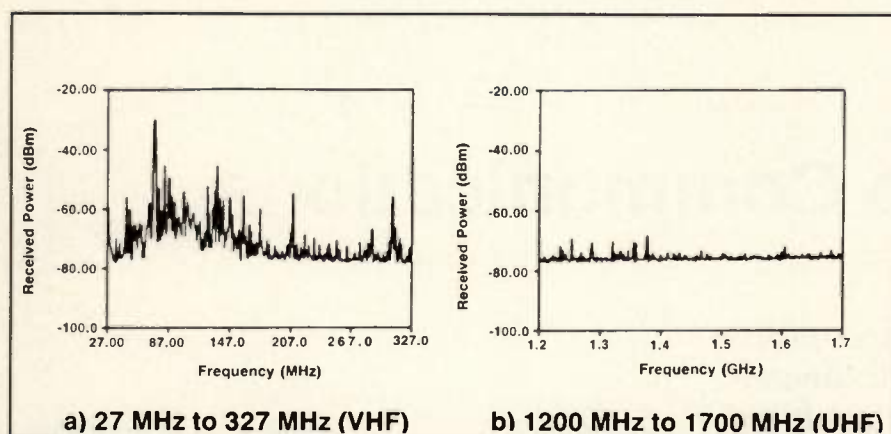

Figure 1. Noise power spectrum measured 4 m from engine cylinder machining line (9).
Although much of the radio noise encountered in factories arises from weak emitting sources, measurements have revealed that some types of industrial equipment emit harmonic RF energy and can radiate substantial noise up to several hundred megahertz (8). Equipment such as RF-stabilized arc welders, induction heaters and plastic bonders are acute sources of noise. Although interference is significant at HF and VHF, noise signatures of such equipment fall off rapidly above 1 GHz (8). Recent empirical measurements have confirmed that typical machine-generated noise levels in operational factories are much less severe at higher frequencies (9). Figure 1 shows results of peak noise power spectrum measurements made along an engine manufacturing transfer line in full operation. Worst-case noise levels are seen to be